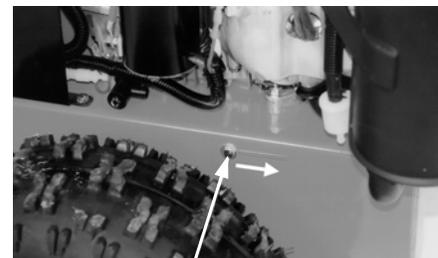

Figure 19 Loosen Bolt and Slide Back
4. Loosen the Belt Retainer Bolts on the outside of the Frame (one on each side), slide the Retainer back (**Figure 19**),